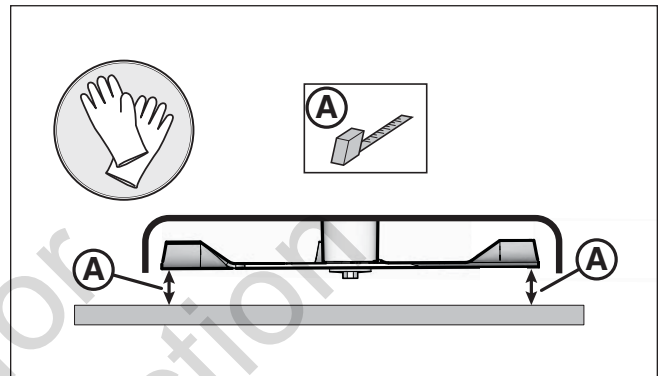

Figure 40. Checking The Blade Height Measurement
7. For your safety, DO NOT handle mower blades with bare hands. Position the outside mower blades so that they face front-to-back (Figure 40).